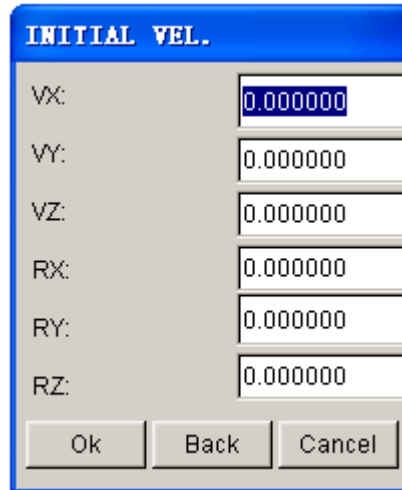

Figure 5.6.11 Initial Velocity dialog box
- Enter the initial velocity in the INTIAL VELOCITY dialog box as illustrated in Figure 5.6.11.